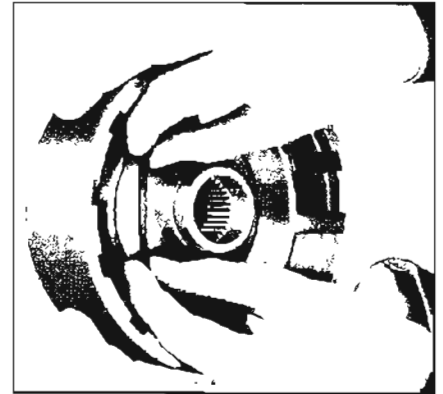

Figure 5-632
10. Remove the center piston seal from the direct clutch housing. See Figure 5-632.